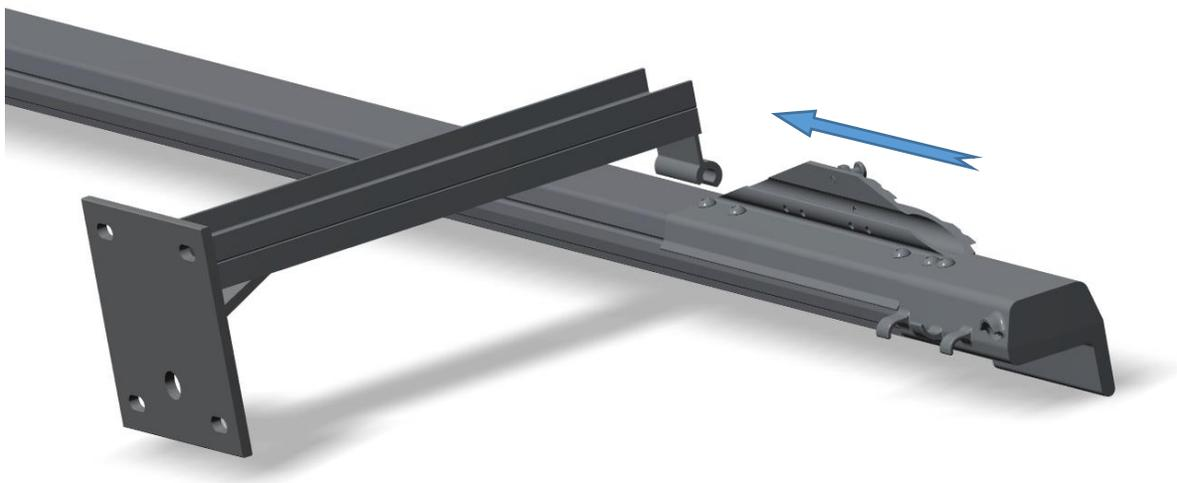

Figure 6: Slide fixture on the Mount Arm
2. Slide the Fixture Assembly onto its associated Mount Arm as shown in Figure 6.